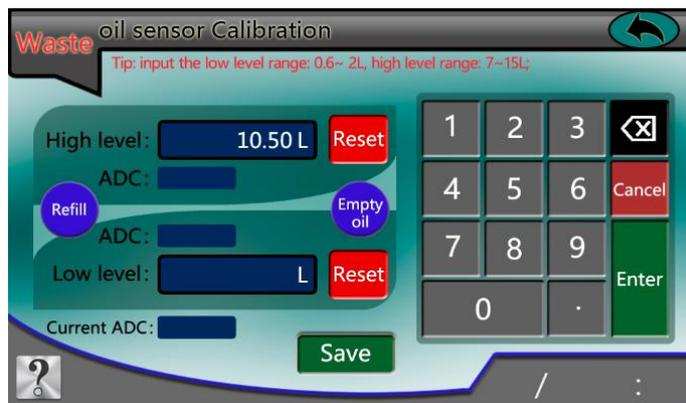
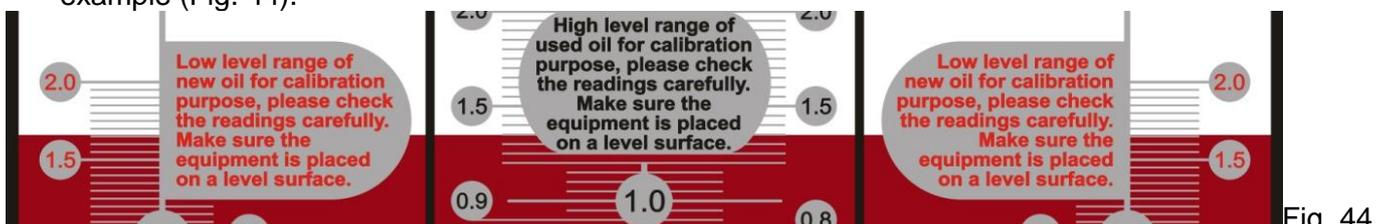

Fig. 43
Fig. 44
12.5 Enter the oil volume 10.5L into the edit box of 'High level'. Wait until the final ADC number shows and press 'Enter'. If a mistake is made, tap 'Reset' and enter the correct number (Fig. 43).
12.6 Now follow the article 9.1 to empty the waste oil tank and tap 'Empty oil' in Fig.43. When the oil is emptying and the oil level lowered to the range of 0.6~2.0L, Press 'Stop'. Here it shows 1.35L for example (Fig. 44).